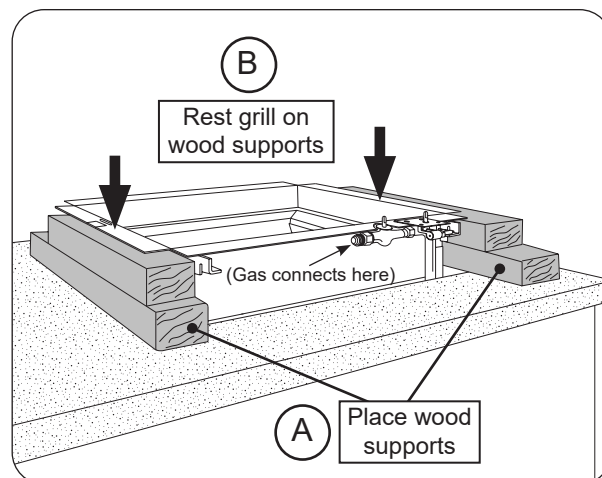

Fig. 25-3 Rest unit on temporary wood supports
2. Place wood supports (or similar) on the left and right sides of the cutout openings (see Fig. 25-3, A).
3. Carefully lower the grill body into the cutout and rest the left and right flanges onto the wood supports (see Fig. 25-3, B). The temporary wood supports will raise the unit above the countertop for easy access to gas connections.